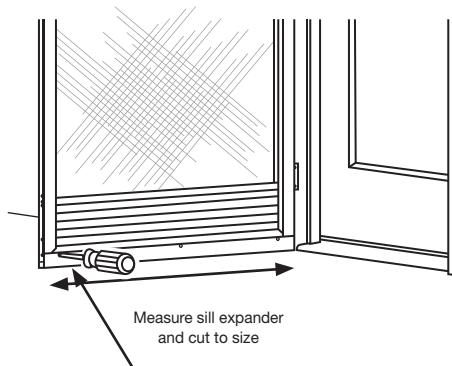

Fig. 9
Temporarily tape sill channel expander in place with masking tape. Mark and pre-drill (3) sill channel expander attachment holes as indicated on interior side using 1/8" drill bit. Secure with #8 x 3/8" screws provided (**Fig. 9**). Do not over tighten.